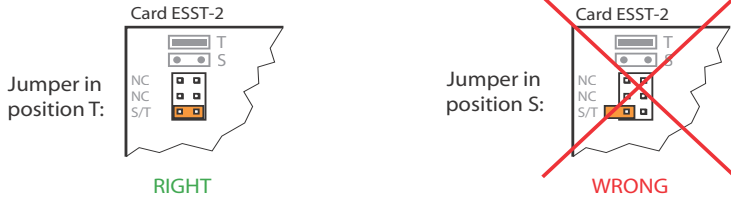

Fig. 24 Jumper position on ESST card
2) On the ESST terminal card the jumper must always be fitted in position T (see Fig. 24).
- On the ESST terminal card the jumper must always be fitted in position T (see Fig. 24).